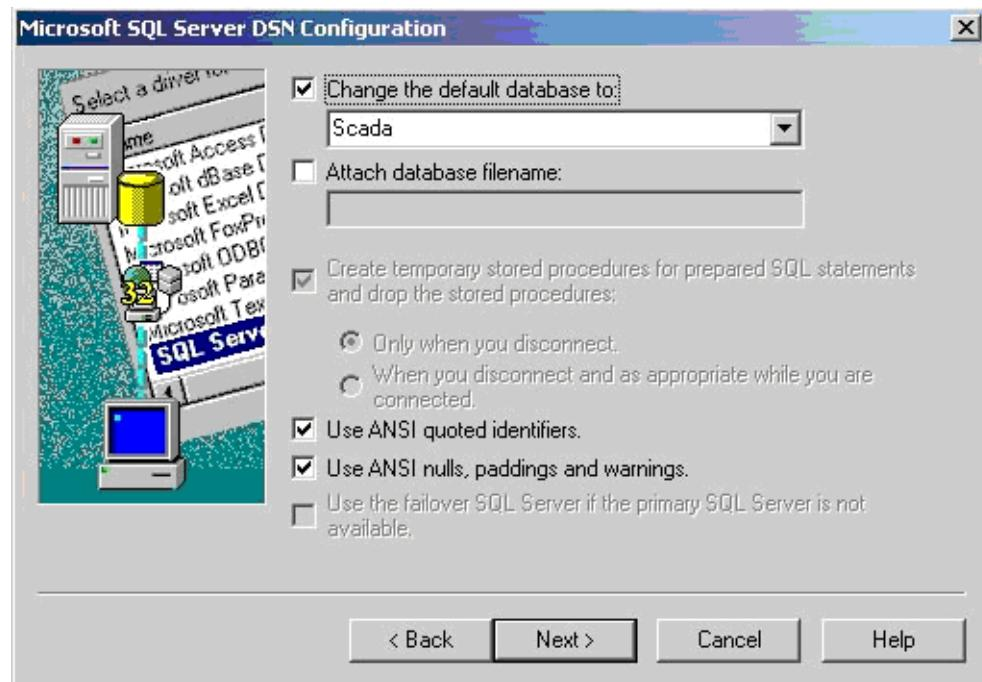

Figure 39: Selecting the default database
11. Select a default database, for example SCADA, see Figure 39. Select the same database as created in Section 5.2.